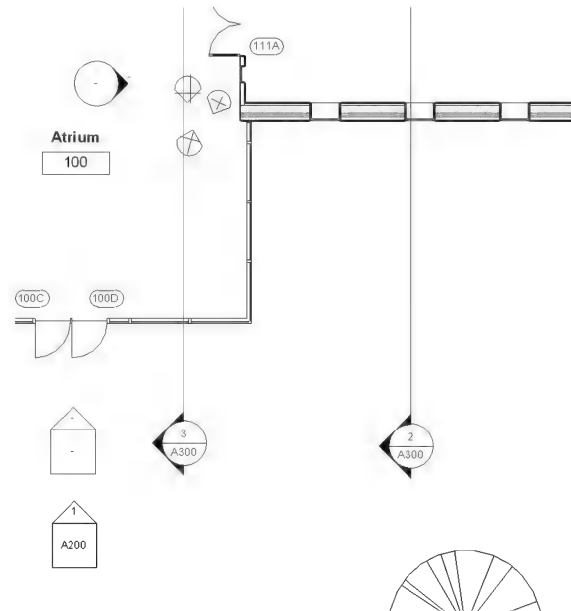

FIGURE 14-1.10 Level 1 – Section refs filled in
27. Switch to Level 1 plan view and zoom into the area shown in Figure 14-1.10.